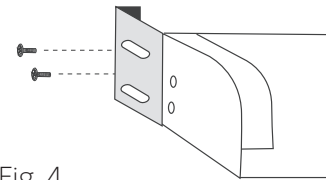

Fig. 4
- d. Install the Valance Bracket with screws (fig. 4).